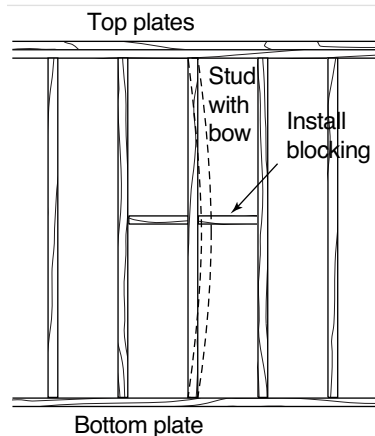

FIGURE 13
- Provide blocking between studs that bow sideways (Figure 13).